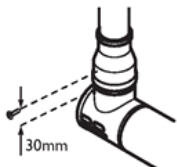
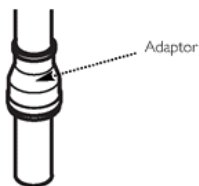

Fig. 21j
Fig. 21k
9. The 60Ø exhaust can now be fitted. Slide the adaptor over the plain end of the 60Ø exhaust (Fig. 21k) and engage the exhaust in the terminal. Slide the adaptor down over the spigot. Mark and drill the adaptor, using a 2mm bit, as shown in Fig. 21j. Secure the adaptor to the spigot using one of the screws supplied.